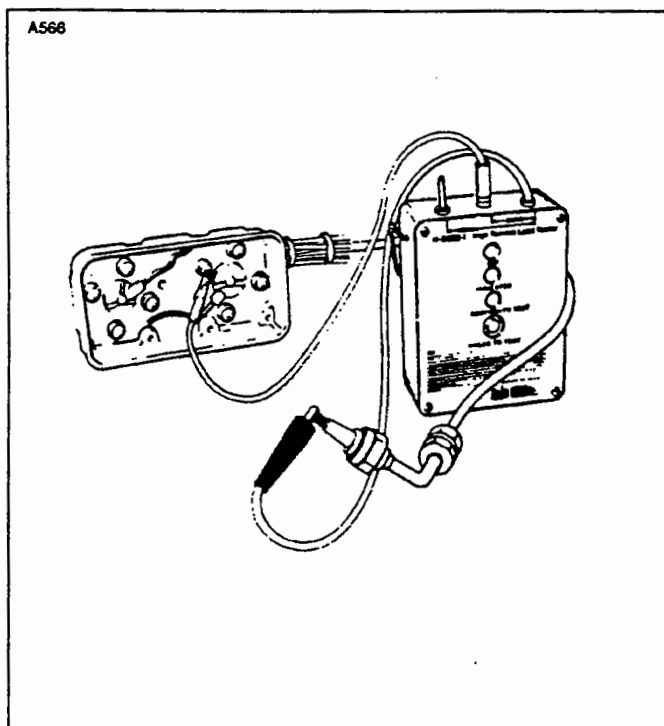

Figure 74-20. Checking Harness Lead Continuity
- A. Connect black test lead to contact spring and red lead to eyelet of the same lead. (Refer to Figure 74-20.)